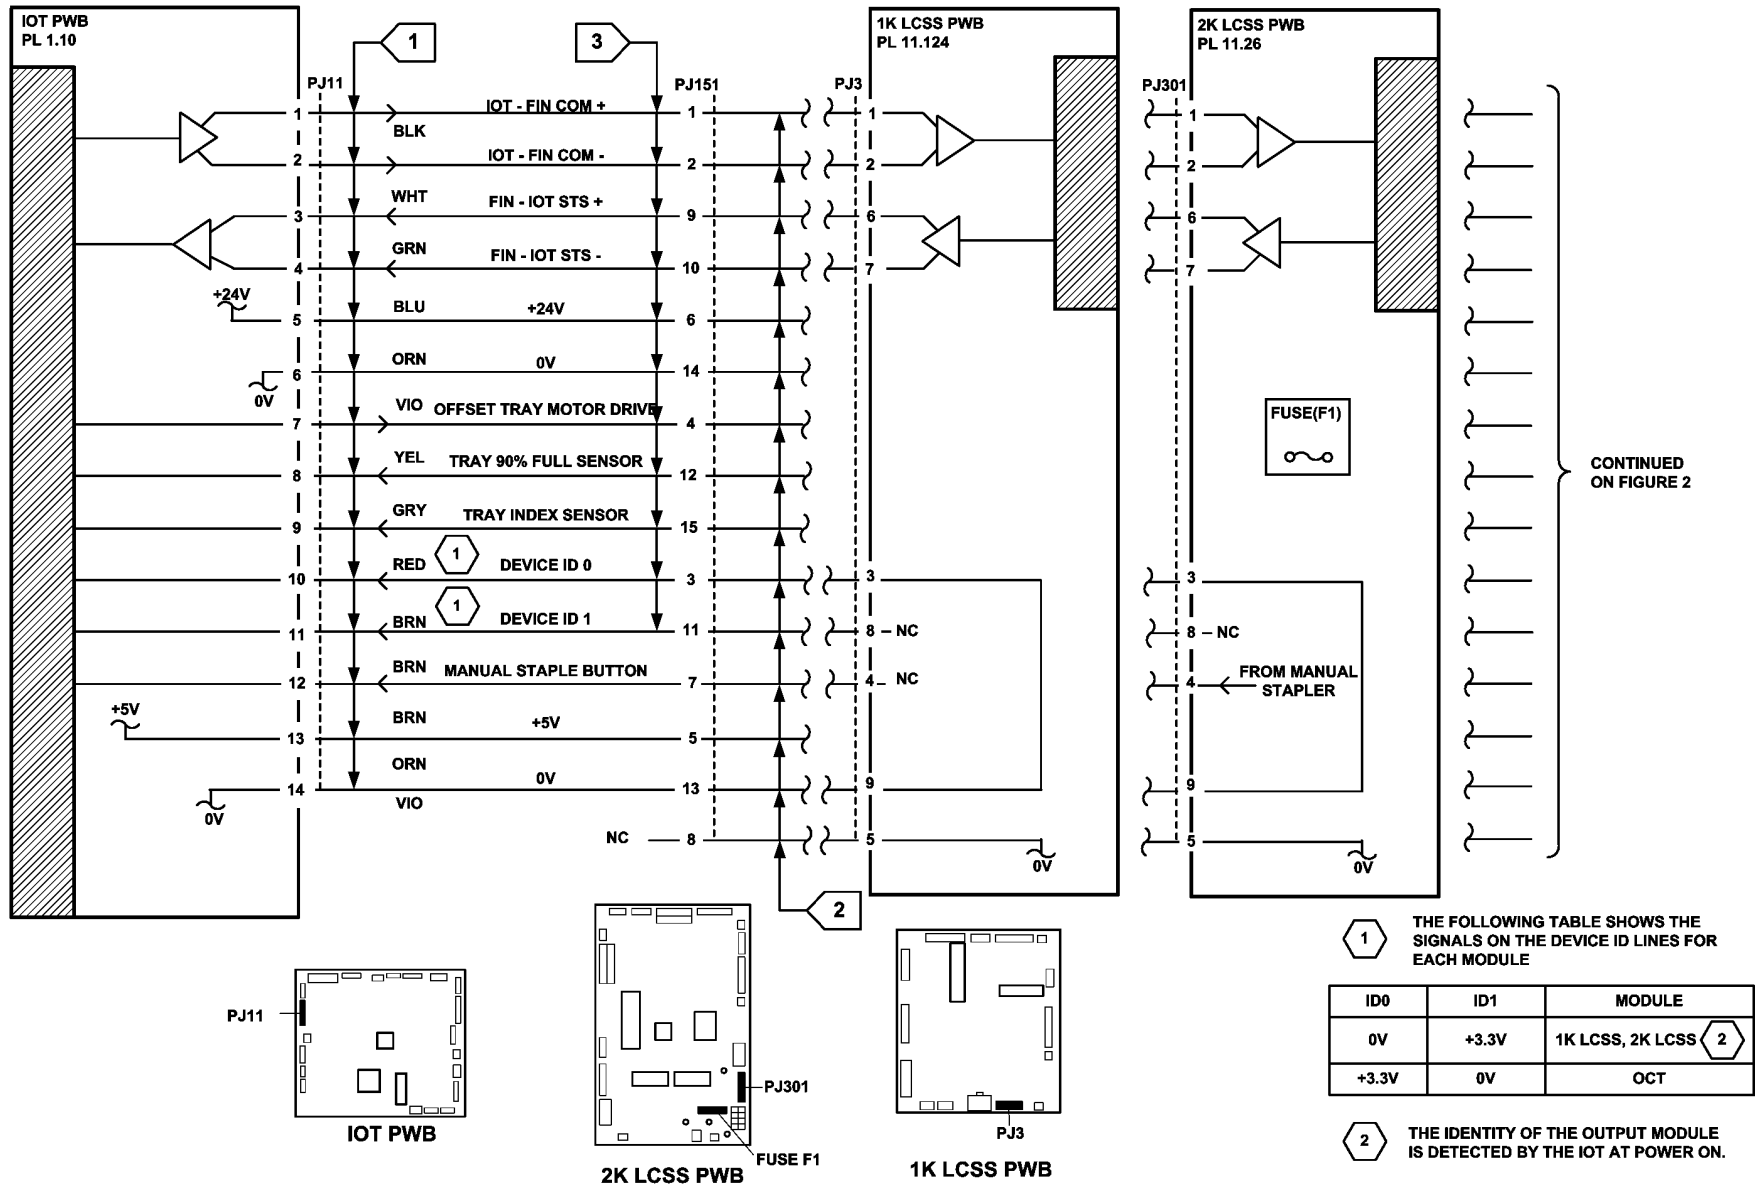

Figure 1 Circuit diagram
8. If the correct output device is not detected, go to Flag 3. Check that the voltages on the device ID lines are correct according to the table in Figure 1. Install new components as necessary: